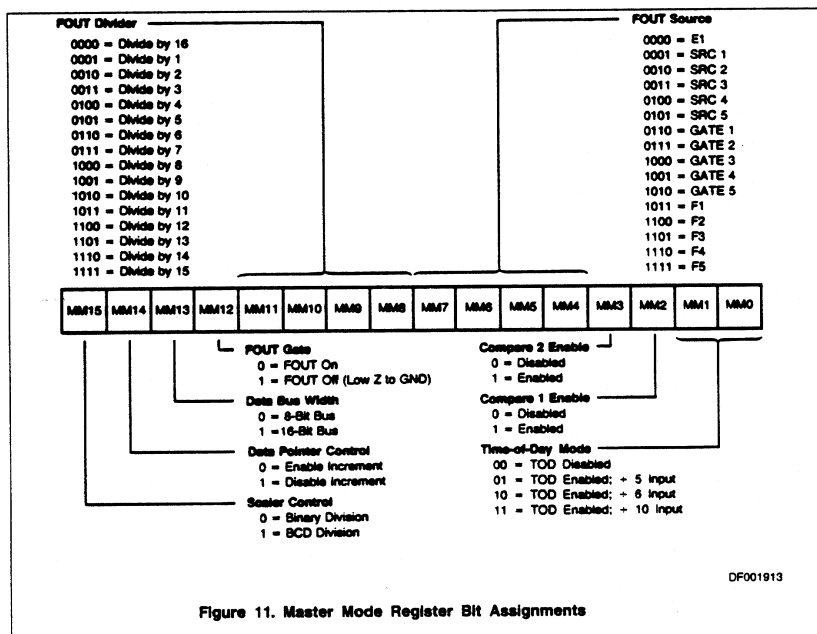

Figure 11. Master Mode Register Bit Assignments
The 16-bit Master Mode (MM) register is used to control those internal activities that are not controlled by the individual Counter Mode registers. This includes frequency control, Time-of-Day operation, comparator controls, data bus width and data pointer sequencing. Figure 11 shows the bit assignments for the Master Mode register. This section describes the use of each control field.